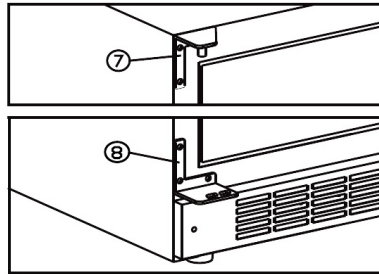

fig. 8.4
- Mount the left top and bottom hinge enclosed (7 + 8). See fig. 8.4
- Remount the door pin previously dismounted (3) in the bottom hinge
- Mount the door in the top hinge (7) towards the door pin (3), tighten the door pin (1)